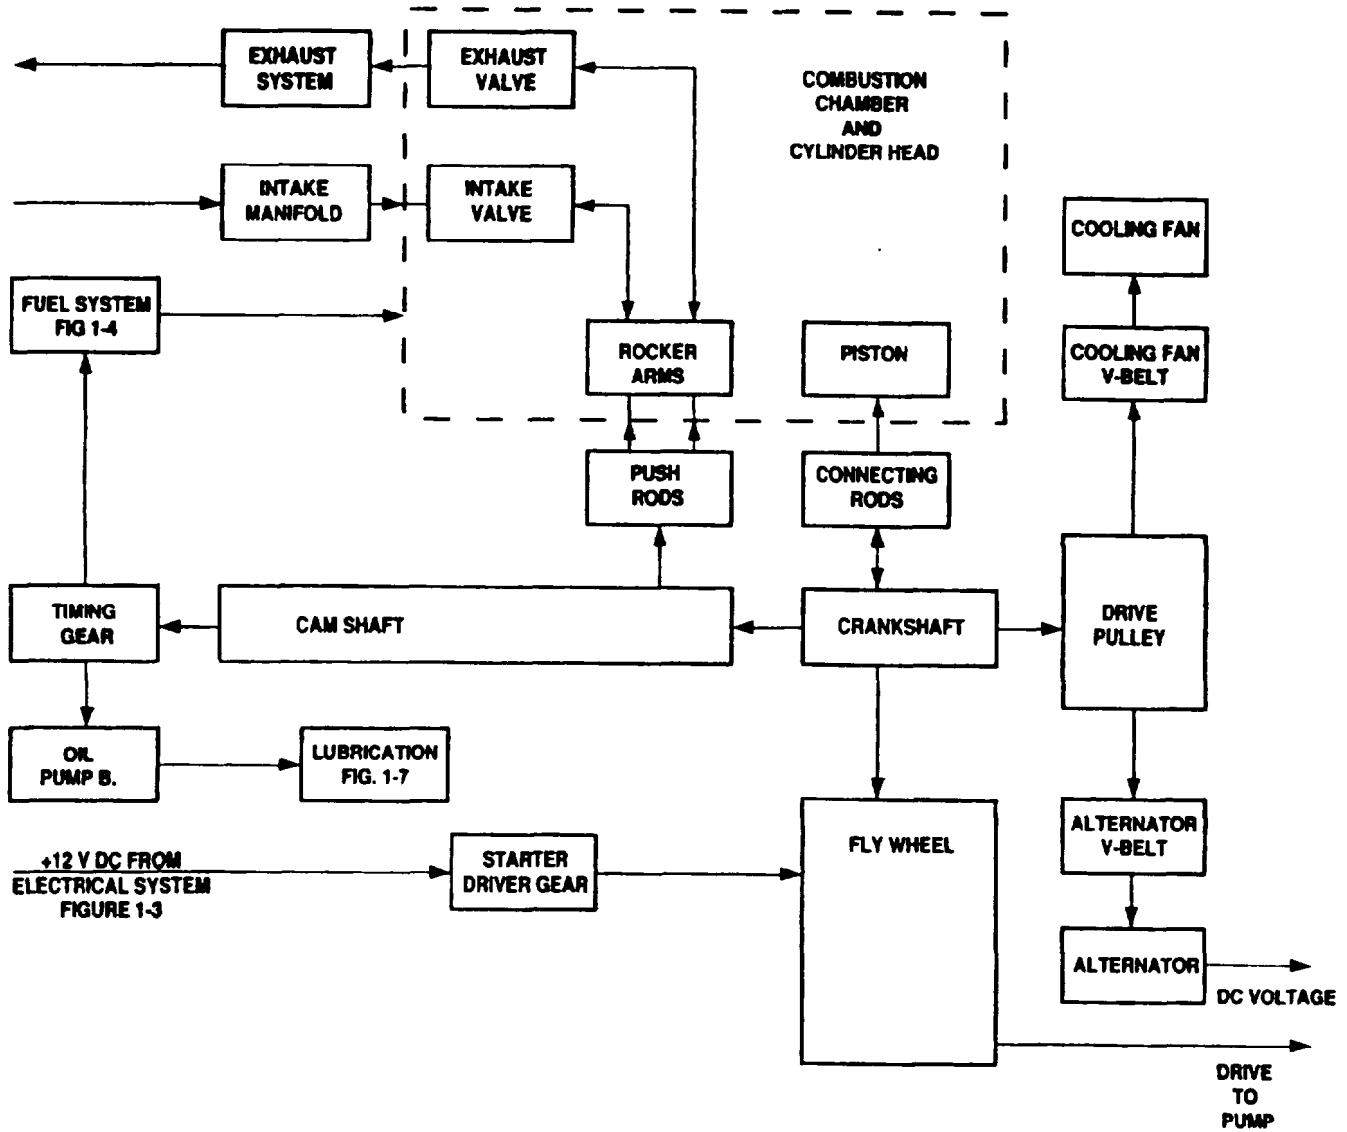

Figure 1-6. Engine Functional Block Diagram(All Models)
1.14.2.5 Engine Assembly. The engine assembly (figure 1-6) is started as described in paragraph 1.14.2.3 and 1.14.2.3.1 and provides the drive for the 350 GPM pumping assembly. When the engine is started, starter motor B1 turns the crankshaft. When the crankshaft is turned, the pistons and valves move up and down. While one of the pistons is moving upward, fuel is injected into the combustion chamber and mixed with air at a controlled rate. The temperature inside the combustion chamber causes the fuel and air to burn (combustion). This combustion forces the piston downward, which causes the crankshaft to rotate and the engine to start. The starter motor B1 is then disengaged. The up and down movement of the pistons continues with fuel being injected into selected cylinders. The rotation of the crankshaft also turns the camshaft and timing gears. The timing gears turn the oil pump and the fuel pump. Oil is pumped through the lubrication system and fuel is pumped to the fuel injectors. In addition, the drive pulley rotates and drives the V-belts. The V-belts operate the cooling fan and alternator, The cooling fan keeps the oil and engine cool to prevent overheating. The alternator provides 14 V dc. The following paragraphs provide a more detailed description of diesel engine operation.